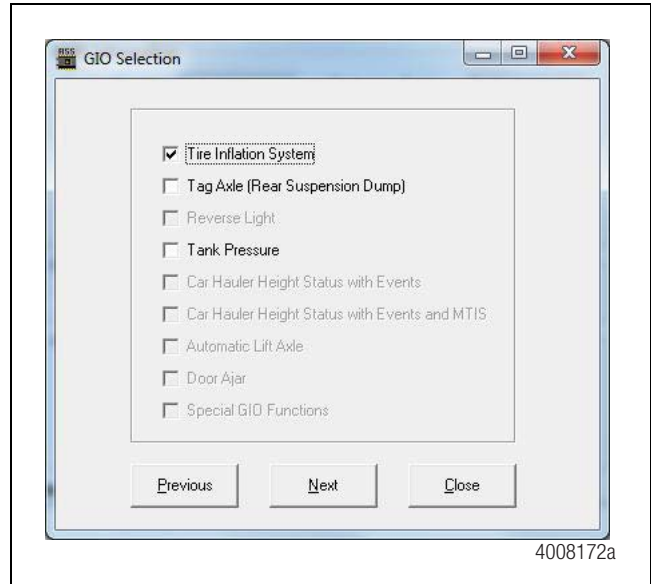

Figure 5
- The *GIO Selection* screen appears. Click on the box adjacent to the label **Tire Inflation System**. Ensure that a check mark appears in the box. Then press the button labeled **Next** at the bottom of the screen. Figure 5.